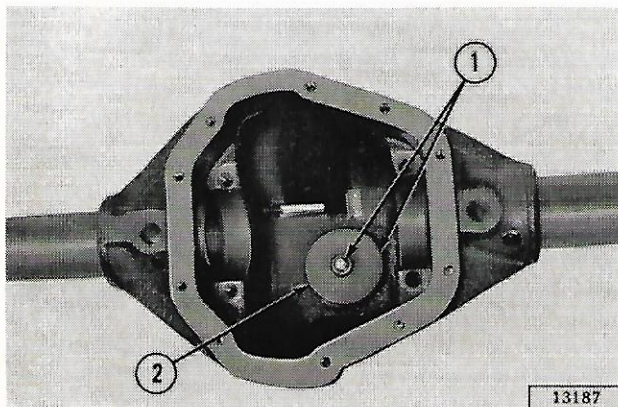

FIG. 11-12—INSTALLING INNER BEARING CUP
- Install the inner bearing cup using Tool 100-60-70, to pull the cup into the housing. See Fig. 11-12.